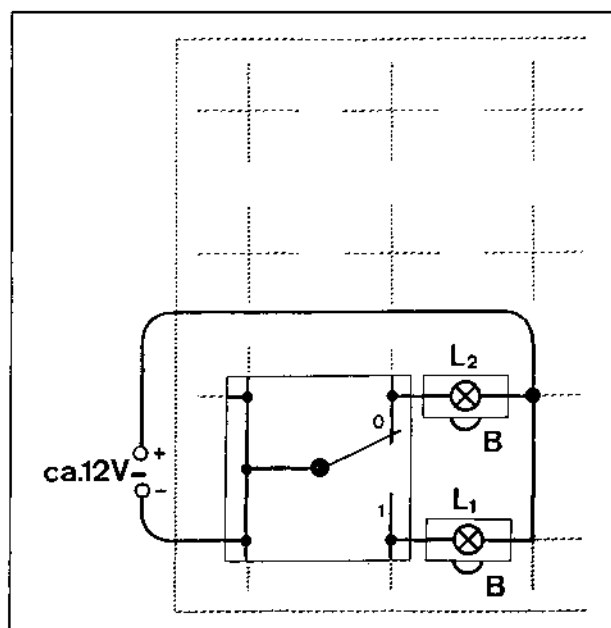

Fig. 1 Experiment setup: Switching over
1. Draw the circuit diagram for the circuit shown in fig. 1. The symbol for a changeover switch is shown in fig. 2.
2. Build the circuit shown in fig. 1.